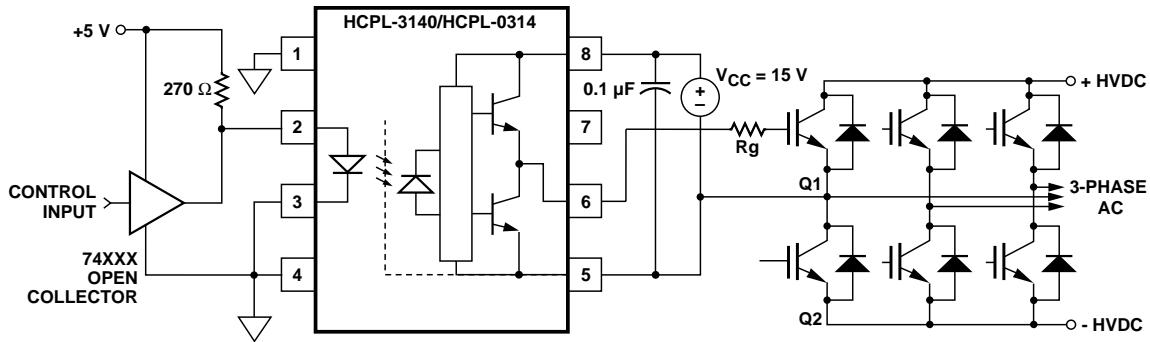
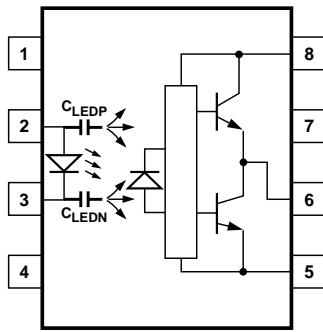
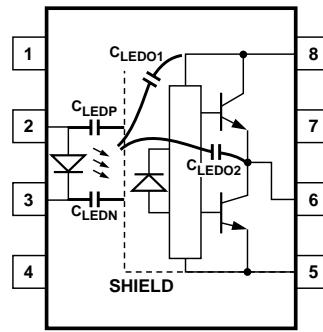

Figure 19. Recommended LED drive and application circuit for HCPL-3140/HCPL-0314.
Figure 21. Optocoupler input to output capacitance model for unshielded optocouplers.
Figure 22. Optocoupler input to output capacitance model for shielded optocouplers.
HCPL-3140/HCPL-0314 on a small PC board directly above the IGBT) can eliminate the need for negative IGBT gate drive in many applications as shown in Figure 19. Care should be taken with such a PC board design to avoid routing the IGBT collector or emitter traces close to the HCPL-3140/HCPL-0314 input as this can result in unwanted
Step 1: Calculate R_g minimum from the I_{OL} peak specification. The IGBT and R_g in Figure 19 can be analyzed as a simple RC circuit with a voltage supplied by the HCPL-3140/HCPL-0314.
where K_{ICC} • Qg • f is the increase in I_{CC} due to switching and K_{ICC} is a constant of 0.001 mA/(nC*kHz). For the circuit in Figure 19 with I_F (worst case) = 10 mA, R_g = 32 Ω, Max Duty Cycle = 80%, Qg = 100 nC, f = 20 kHz and T_{AMAX} = 85°C:
Without a detector shield, the dominant cause of optocoupler CMR failure is capacitive coupling from the input side of the optocoupler, through the package, to the detector IC as shown in Figure 21. The HCPL-3140/HCPL-0314 improves CMR performance by using a detector IC with an optically transparent Faraday shield, which diverts the capacitively coupled current away from the sensitive IC circuitry. However, this shield does not eliminate the capacitive coupling between the LED and opto-coupler pins 5-8 as shown in Figure 22. This capacitive coupling causes perturbations in the LED current during common mode transients and becomes the major source of CMR failures for a shielded optocoupler. The main design objective of a high CMR LED drive circuit becomes keeping the LED in the proper state (on or off) during common mode transients. For example, the recommended application circuit (Figure 19), can achieve 10 kV/μs CMR while minimizing component complexity.
supplied by the LED, and it is not recommended for applications requiring ultra high CMR₁ performance. The alternative drive circuit which like the recommended application circuit (Figure 19), does achieve ultra high CMR performance by shunting the LED in the off state.